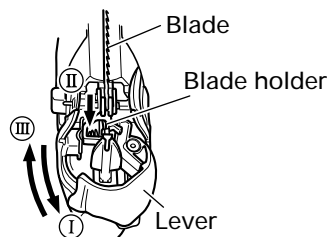

Fig. 3
- (1) Open the lever up to the stop. (Fig. 3-I)
- (2) Remove fitted blade
- (3) Insert new blade up to the stop in the blade holder. (Fig. 3-II)
- (4) Close the lever. (Fig. 3-III)